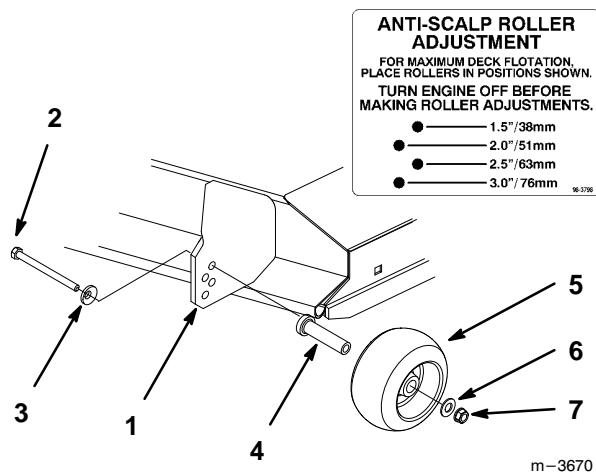

Figure 5
2. Adjust anti-scalp rollers for maximum deck flotation. Place rollers in one of the positions shown in (Fig. 5).
3. Reposition the roller so it's approximately 1/4" to 3/8" (6 to 10 mm) above the ground, then insert the clevis pin through the gauge wheel plate and mounting bracket (Fig. 5).